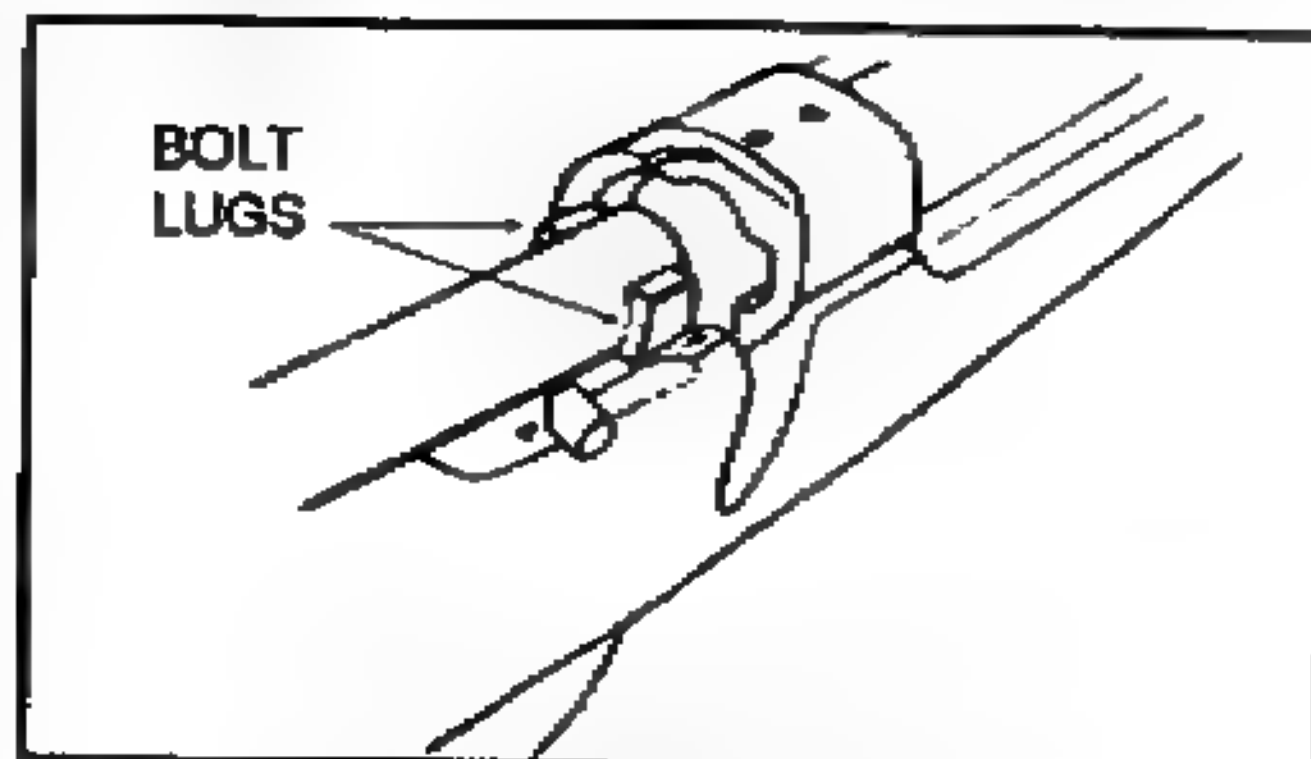

Figure 2-5. Bolt alignment.
(2) To replace the bolt, ensure the safety is in the "S" position, align the lugs on the bolt assembly with the receiver (Figure 2-5), slide the bolt all the way into the receiver, and then push the bolt handle down.